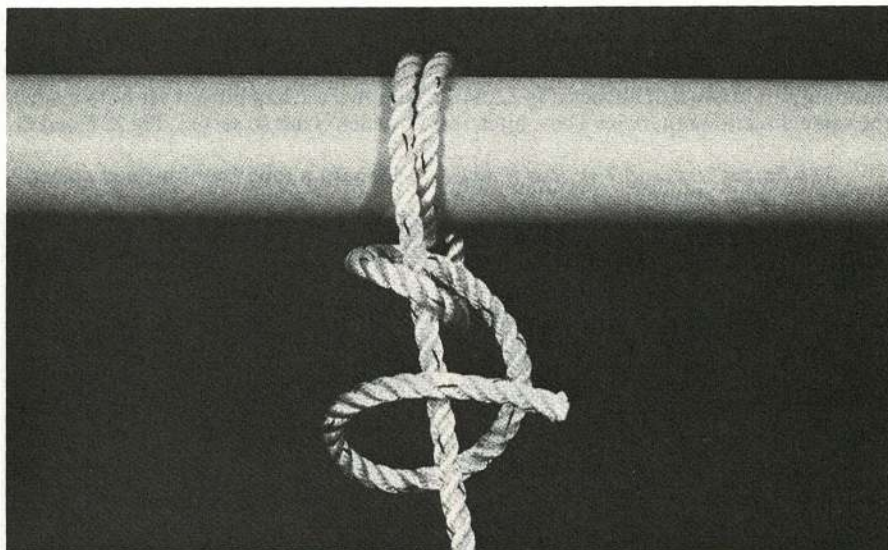

Fig 22F . . . but ensure that you make the half hitches correctly — the second half hitch passed under instead of over . . .
21. The round turn and two half hitches is the common method of making fast any rope end. Wrap the standing part a whole turn round the spar or other object (make sure that it is a whole turn and not a half turn), and then thread the running end around the standing part in two half hitches, Fig 22. Make sure that the half hitches are both made in the same direction otherwise a cow hitch results which is not so secure, Fig 22F and G.